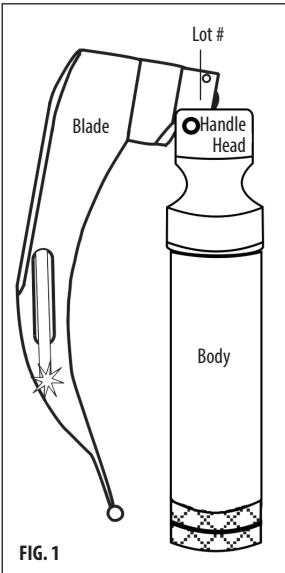

FIG. 1
Immediately after use, the laryngoscope system should be rinsed under cool running tap water until all visible soil is removed. Rinse hard-to reach areas with a cleaning gun for at least one (1) minute. Remove the blade from the handle head (Figure 1).
2. Brush the hard-to-reach areas of the blade with a soft brush for at least one (1) minute. Pay attention to hard to reach areas.
5. Rinse the blade completely under lukewarm running tap water for a minimum of one (1) minute to remove the cleaning solution completely. Check for cleanliness. If dirt is visible, repeat steps 1-5 until visibly clean.
1. Remove laryngoscope blade from the handle head (Fig. 1).
Fiber Optic blades that are compatible in STERRAD® Systems must be manufactured in or after May 2012 or have a lot number "Me" or greater. Upper case "M" corresponds to the year 2012 and lower case "e" corresponds to the manufacturing month, May. Lot number will be visible on every blade (Fig.1). Lot numbering key:
- Retire la hoja del laringoscopio del cabezal del mango (fig. 1).